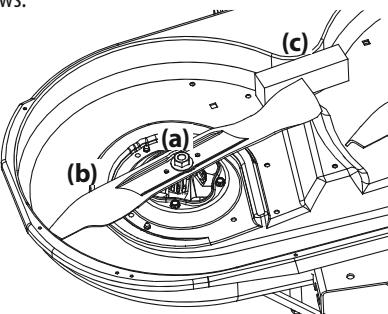

Figure 50
2. Use a $15/16"$ wrench to hold the hex nut on top of the spindle assembly when loosening the hex nut (a) securing the blade (b). A block of wood (c) may be placed between the deck housing and the cutting edge of the blade (b) to help in breaking loose the hex nut (a) securing the blade. See Figure 50.